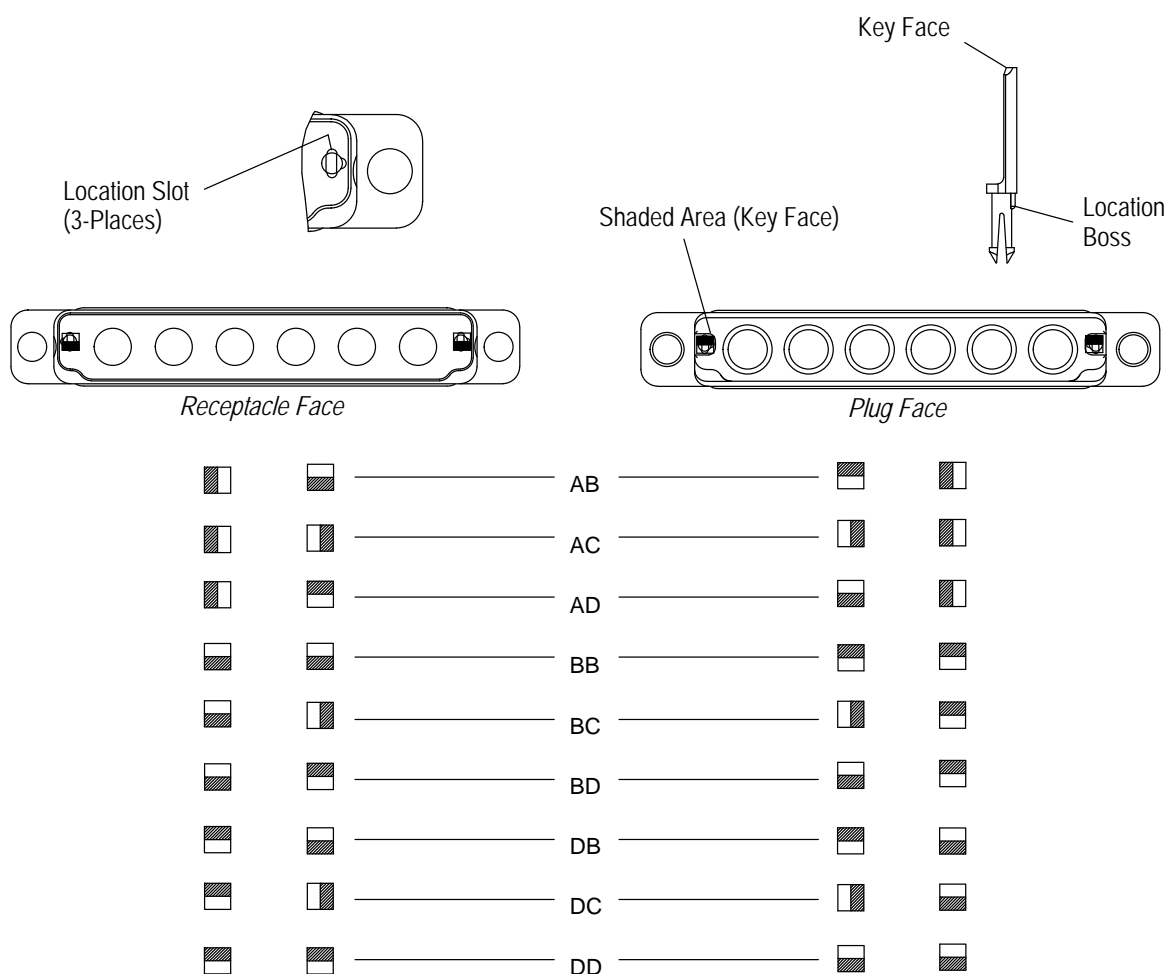

Figure 2
2. Orient the key to the proper location and align the location boss on the keying pin with the appropriate slot in the housing. Refer to the suggested keying codes provided in Figure 2.
To properly mate and unmate the two halves of a connector system, the free-hanging plug must be properly keyed with the same polarization code as its' mating receptacle. Refer to Figure 2.